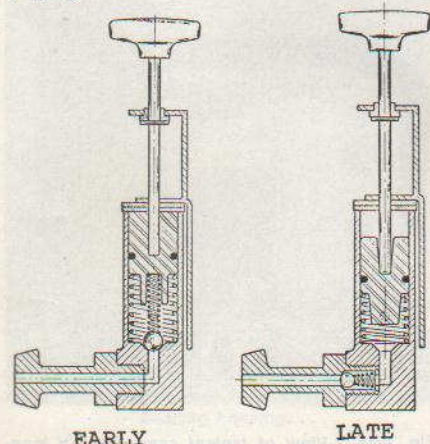
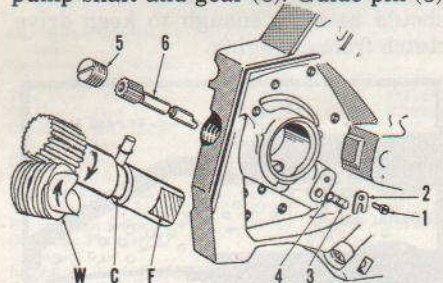

Fig. PR5-6—Cross section of early and late type manual oiler pumps. Most saws are equipped with late type.
Fig. PR5-7—Exploded view of the automatic chain oiler pump. Pump shaft and gear (6) is turned by a worm gear on crankshaft.
Oil reservoir should be filled with Pioneer Chain Oil winter or summer grade, or if not available, a good grade SAE 10 to SAE 40 motor oil depending upon prevailing temperature. All models are equipped with a manual chain oiler pump (Fig. PR5-5). Some early pumps were equipped with inlet check valve as shown at (5). Most pumps use special inlet check valve fitting (3). Both early and late pumps are shown in Fig. PR5-6. The automatic chain oiler pump used on some models is shown in Fig. PR5-7. Remove automatic oiler parts in sequence shown.
**CRANKCASE AND CRANKSHAFT.** The crankshaft can be removed from all models after removing the cylinder, piston, rod, flywheel, magneto, fuel tank, chain drive clutch and the main bearing carrier assembly. Automatic chain oiler pump (Fig. PR5-7) must be removed from models so equipped before removing the main bearing carrier.